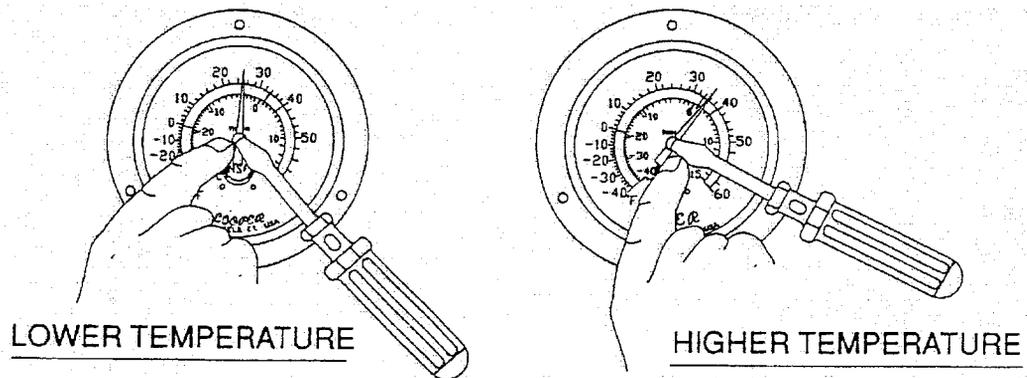

Figure 4.1 – Thermometer Calibration
- e. To recalibrate the thermometer, remove it from the cabinet. Using a small, flat screwdriver, remove the lens. Prepare an ice water bath and immerse the thermometer bulb at least two inches into the ice bath. Within 30 seconds the indicator dial should read 32 degrees Fahrenheit. If it does not, it needs to be recalibrated. Do this by placing your index finger on the opposite side of the needle that needs to move. Then, using a flat screwdriver, turn the screw at the center of the dial  $\frac{1}{4}$  of a turn in the direction you want to move the dial. Repeat the procedure until the needle is on 32 degrees. See Figure 4-1 below for an illustration.